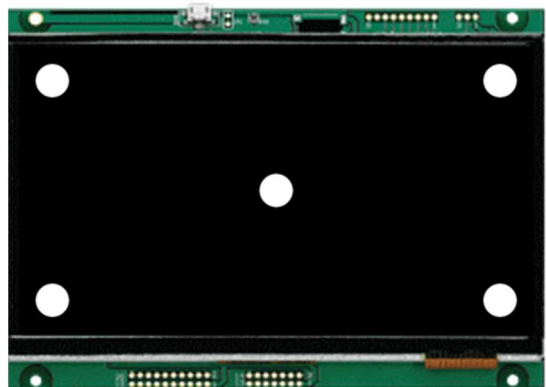

Figure 37: LCD touch screen module with Test Points
Touch at least three (3) times on each white colored dot as shown in the Figure 37.